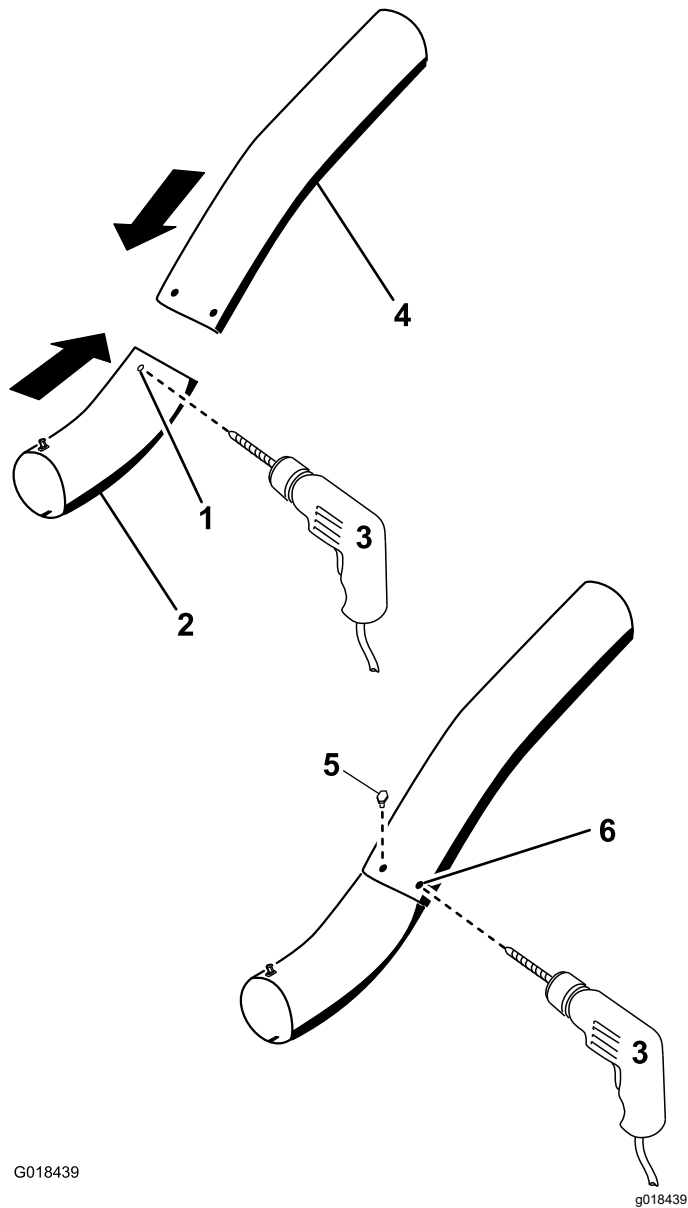

Figure 32
- Using the existing holes in the upper tube as a template, drill 2 holes, 6.5 mm (1/4 inch) diameter, through the dimples on the lower tube (Figure 32).
- Install the washers (1/4 inch) onto the bolts (Figure 32).
- Using a hex key tool, install the screws (1/4 x 3/4 inch) and washers (1/4 inch) from the inside of the lower tube and through the existing holes in the upper tube (Figure 32).
- Secure the tubes together with the nuts (1/4 inch) as shown in Figure 32.